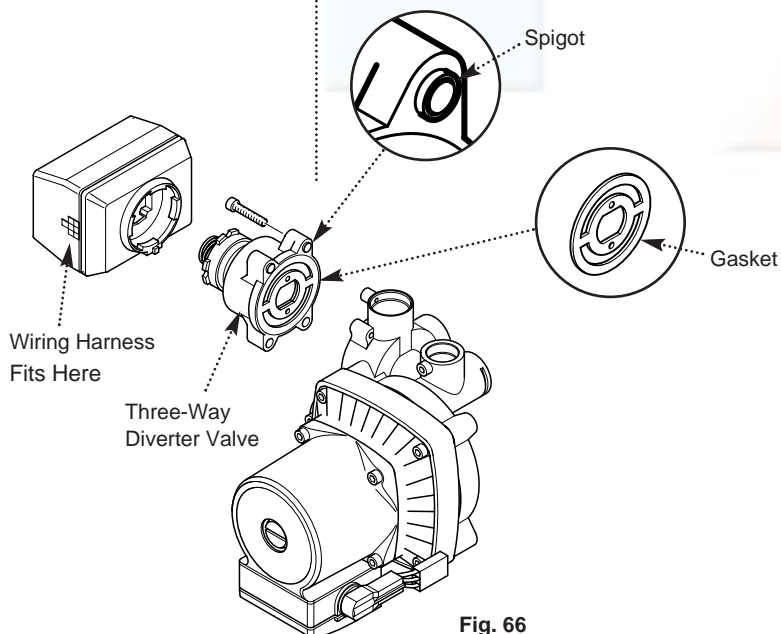

Fig. 66
13.11 Three-Way Diverter Valve (Complete) (Fig. 66)